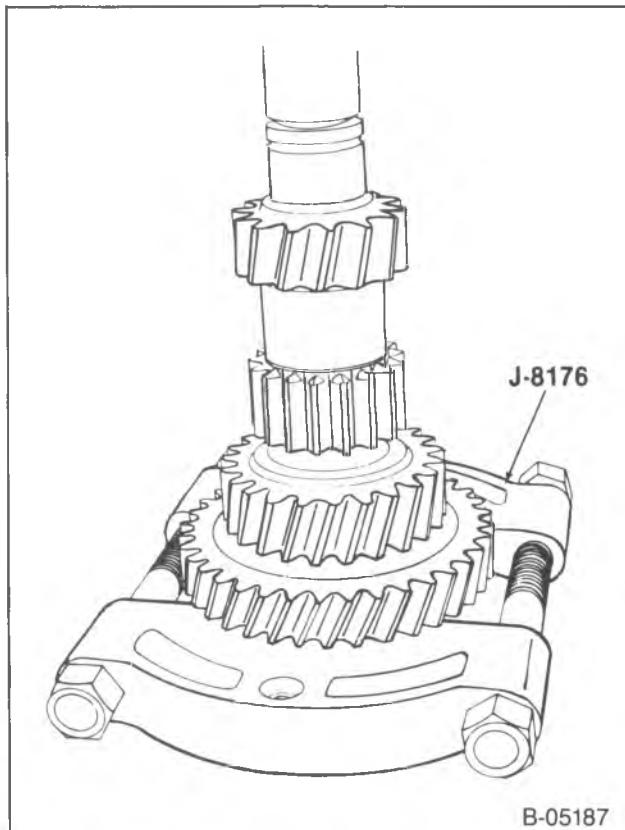

Figure 45—Installing the 3rd Speed Gear
1. 3rd speed gear (290) (figure 45).